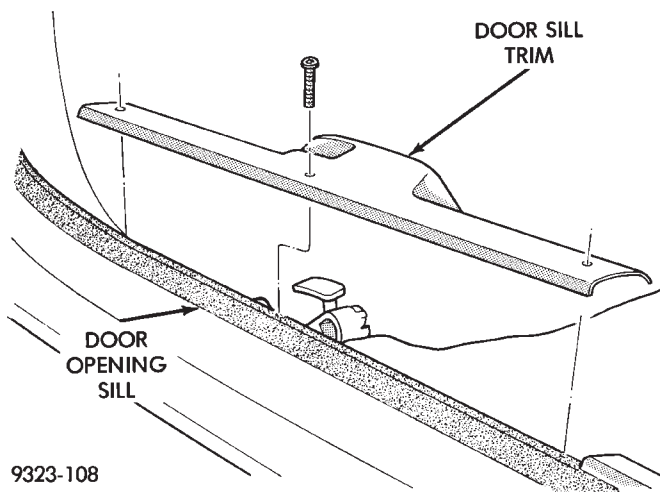

Fig. 55 Door Sill Trim—Typical
- (1) Remove screws holding door sill trim to sill panel (Fig. 55).
- (2) Separate sill trim from vehicle.